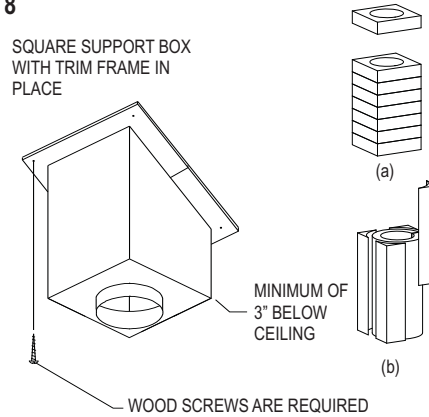

Figure 9
(**Fig.9**). For installation into a cathedral ceiling, you must use the Square Ceiling Support Box or Reduced Clearance Support Box and the two-piece Trim. The bottom of the square portion of the Support Box must be a minimum of 3" lower than the finished ceiling at the lowest side of the penetration (**Fig.9**). Level the Support Box and secure it to the framing using at least three (3) 8-penny nails per side (minimum of 12 nails total), or a minimum of (3) #8, 1-1/2" wood screws. Adjust the overlapping "U-shaped" Trim pieces so they cover the Support Box, and secure them to the framing members using the (6) 1-1/4" round
head wood screws provided (Fig.9).